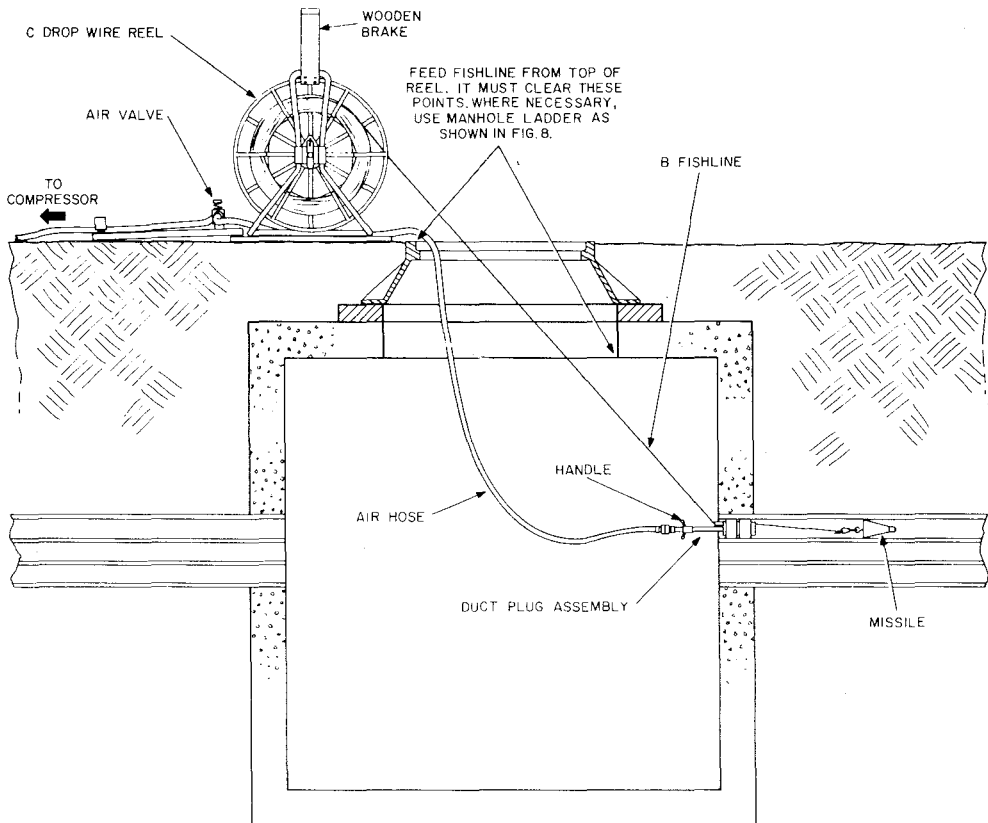

Fig. 10—Duct Plug Assembly in Duct—Using Reel
5.01 Remove the cover from the base of the B Fishline Kit. Position the drop wire reel near the manhole and place B Fishline Kit base over edge of reel base, as shown in Fig. 10.
5.03 Place the missile and duct plug assembly in the duct (Fig. 10). Tighten the duct plugs securely by turning the handle on the duct plug assembly.
5.05 Start the air compressor and allow it to come to operating temperature. Meanwhile, release the adjustable brake on the modified reel and check to see that the setup is complete and that the line will not drag on the edges of the manhole frame or roof opening (Fig. 10).